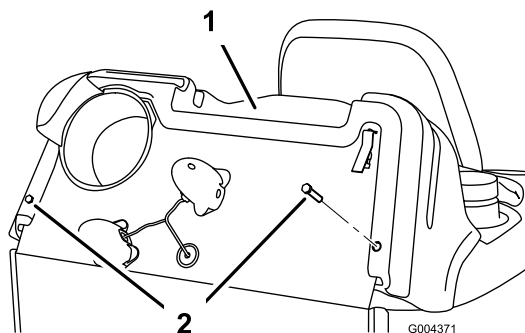

Figure 25
5. Remove the fasteners retaining the engine hood to the machine frame (Figure 25). Retain all parts.